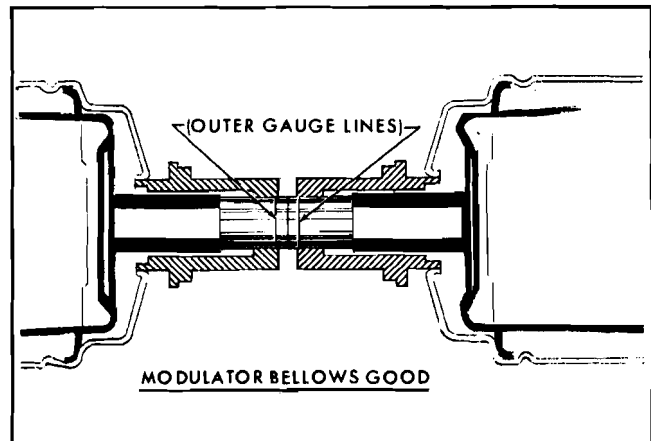

Fig. 7E-127 Modulator Bellows Good
d. The gap between the opposite modulator sleeve ends and gauge line should be $1/16''$ or less (Fig. 7E-127). If gap is greater than $1/16''$, the modulator in question should be replaced (Fig. 7E-128).